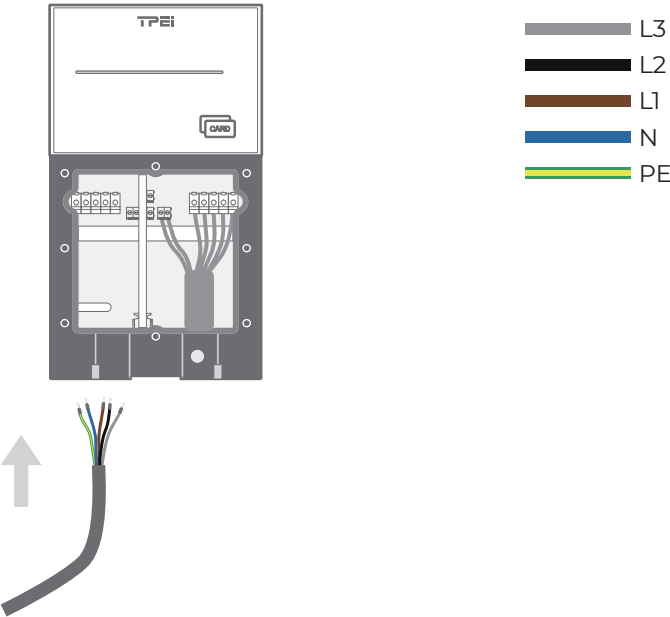

Fig. 5-14
5. Pass the crimped power cable through the hole. (See Fig. 5-14)